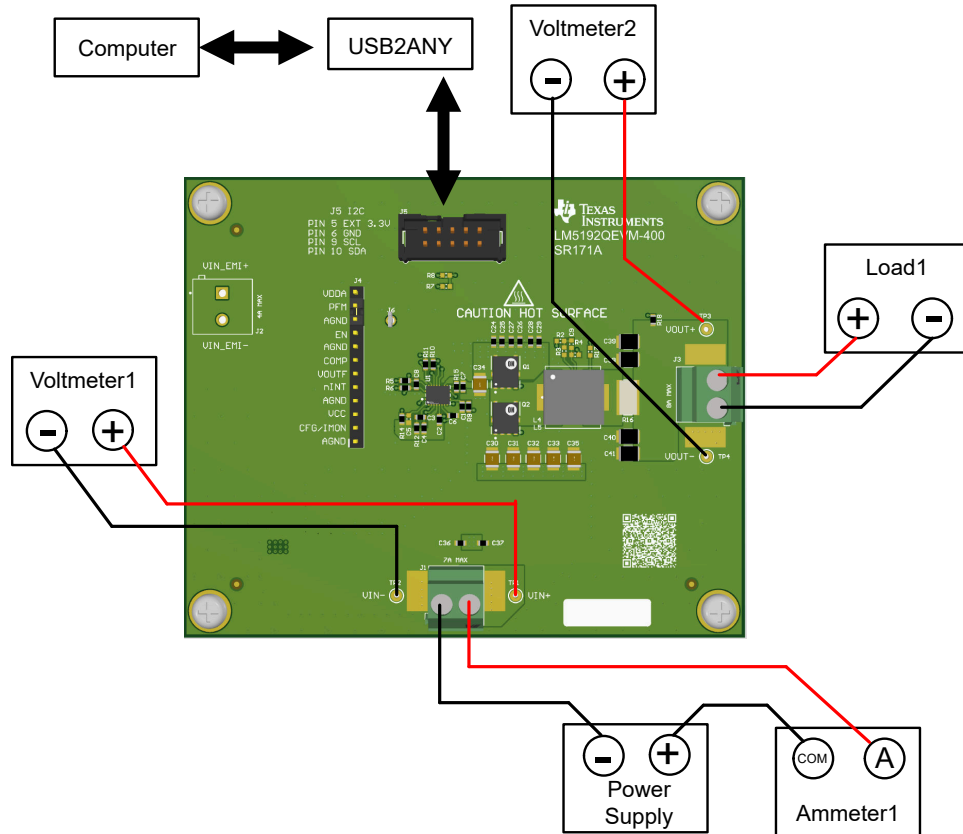

Figure 2-1. EVM Test Setup
Figure 2-1 shows the recommended test setup. Working at an ESD-protected workstation, make sure that any wrist straps, boot straps, or mats are connected and referencing the user to earth ground before handling the EVM.
1. Prior to connecting the input power source, set the current limit of the input supply to 0.1A maximum. Make sure the input source is initially set to 0V and connected to the J1 terminal as shown in Figure 2-1.